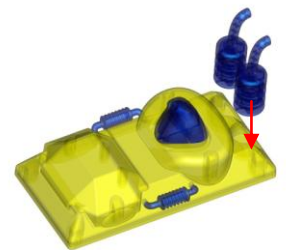

Fig. 8
6. Install the exhaust pipe assembled in step 2. (Fig. 8)